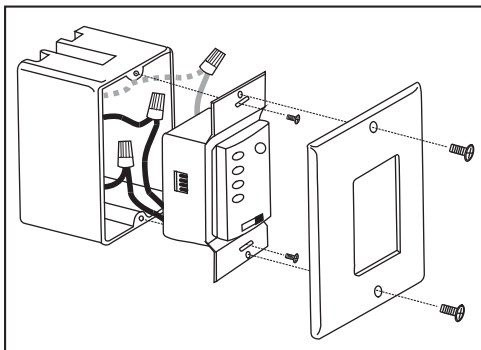

Figure 13
3. (Fig. 13) Carefully tuck the wire connections inside the junction box. Secure the wall transmitter with the two screws provided. Attach the wall plate over the wall transmitter and secure with the two screws provided.